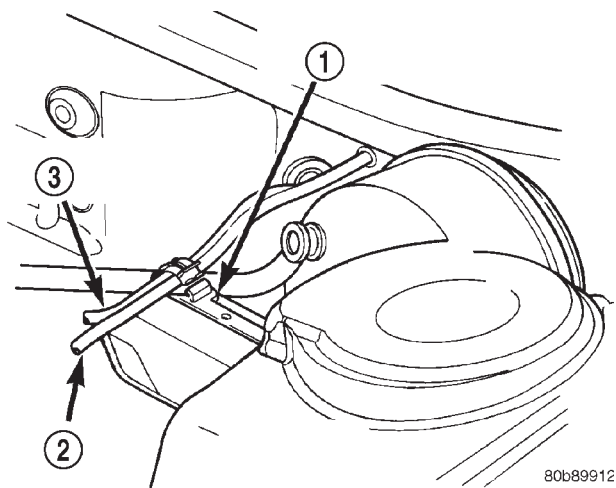
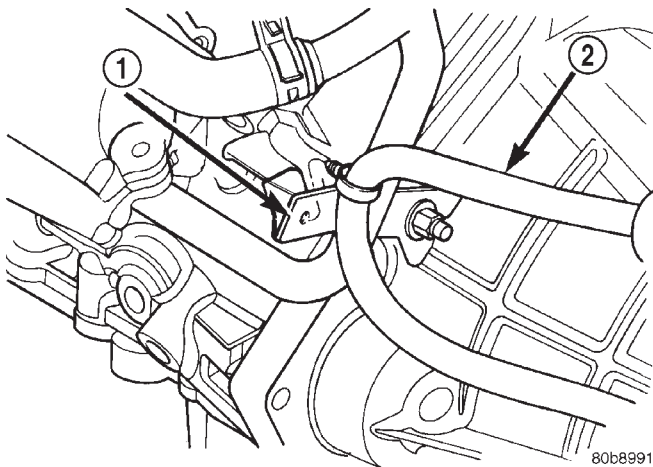
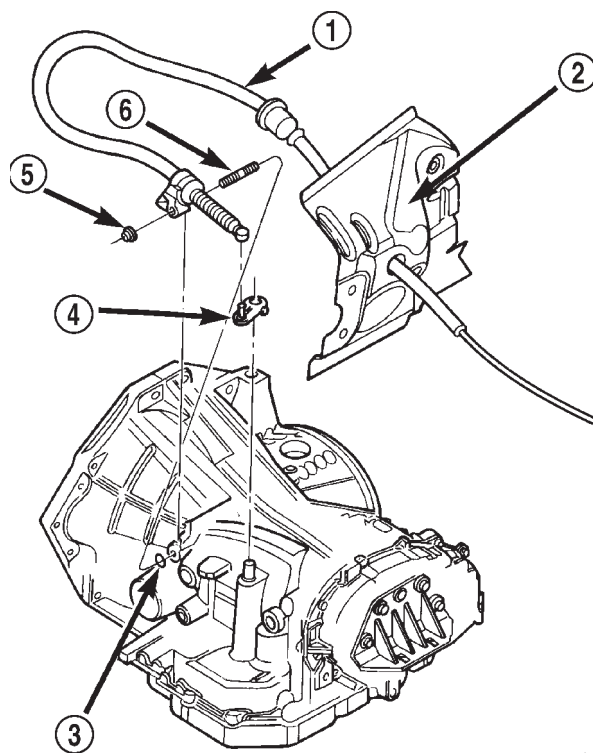

Fig. 47 Throttle/Gearshift Cable Bracket
Fig. 48 Cable Routing Bracket—(3.2L/3.5L Shown/2.7L Similar)
Fig. 49 Gearshift Cable Removal
(9) Raise hood. From inside the engine compartment, remove the gear shift cable from the cable bracket (Fig. 47).
(10) Unseat the cable grommet from the firewall (Fig. 49) and pull the shift cable from the interior of the vehicle.
(11) Raise vehicle on hoist and unbolt fill tube bracket. Rotate fill tube to gain access to the integrated shift cable clamp.
(12) Disconnect cable from routing bracket as shown in (Fig. 48).
(13) Remove shift cable retaining nut and slide cable assy. off of mounting stud (Fig. 49).
(14) Disconnect shifter cable from shift lever assembly at transaxle (Fig. 49).
(15) Remove cable from vehicle.
(1) Make sure transaxle shift lever is in "park." This is the most rearward position. Verify park sprag is fully engaged by rotating either a tire or an axle shaft.
(2) Position cable in vehicle and connect cable end to the transaxle shift lever (Fig. 49).
(3) Verify that the washer (Fig. 49) is still in place on the cable mounting stud. Install cable to transaxle and tighten nut to 28 N·m (250 in. lbs.).
(5) Install cable "push pin" into bracket as shown in (Fig. 48).
(6) Route transaxle shift cable through hole in dash panel (Fig. 49) (Fig. 50).
(7) Lubricate cable grommet with a synthetic lubricant (or equivalent) and secure to hole. Verify that it is seated by pulling outward on cable.
(8) Install cable into throttle/gearshift cable bracket (Fig. 47).